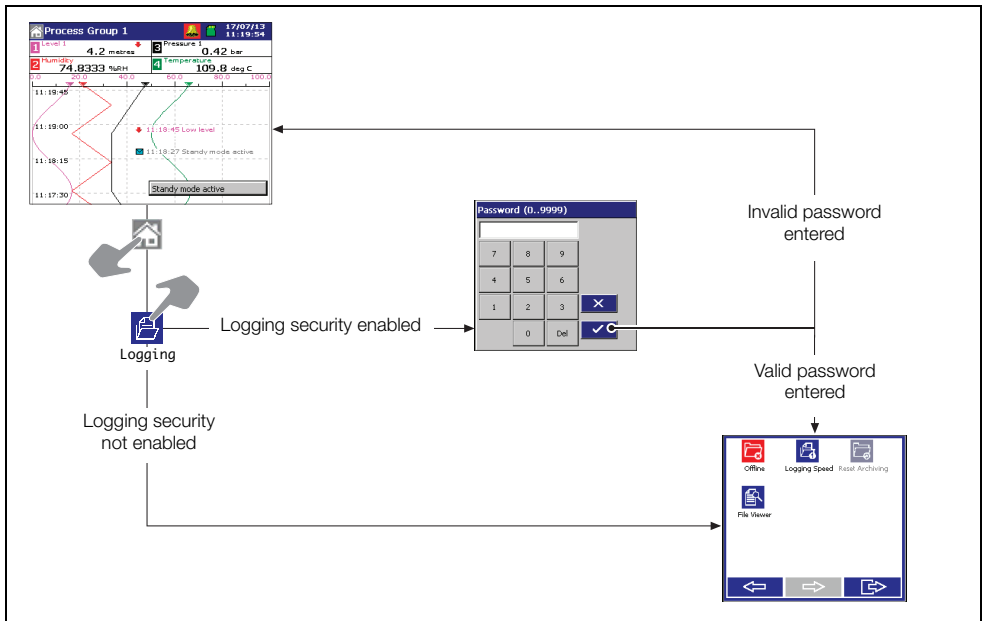

Fig. 6.1 Accessing logging – basic security
- If Security System is set to *Basic* and Logging Security is set to *On*, access to the Logging facility is protected by a single password for all users. Refer to Fig. 6.1 to access Logging.